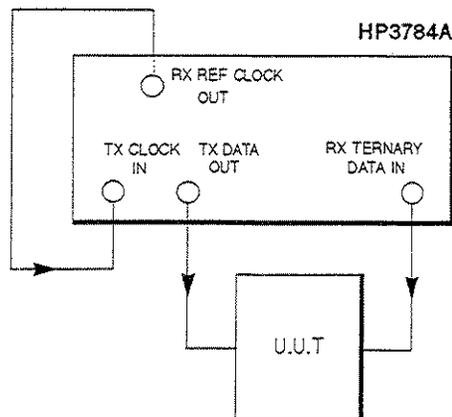

Figure 3-12 Equipment Setup.
In this measurement example the equipment is connected as shown in Figure 3-12. The timing for the HP 3784A transmitter is derived from the receiver recovered clock.
1. Connect the equipment as shown in Figure 3-12.